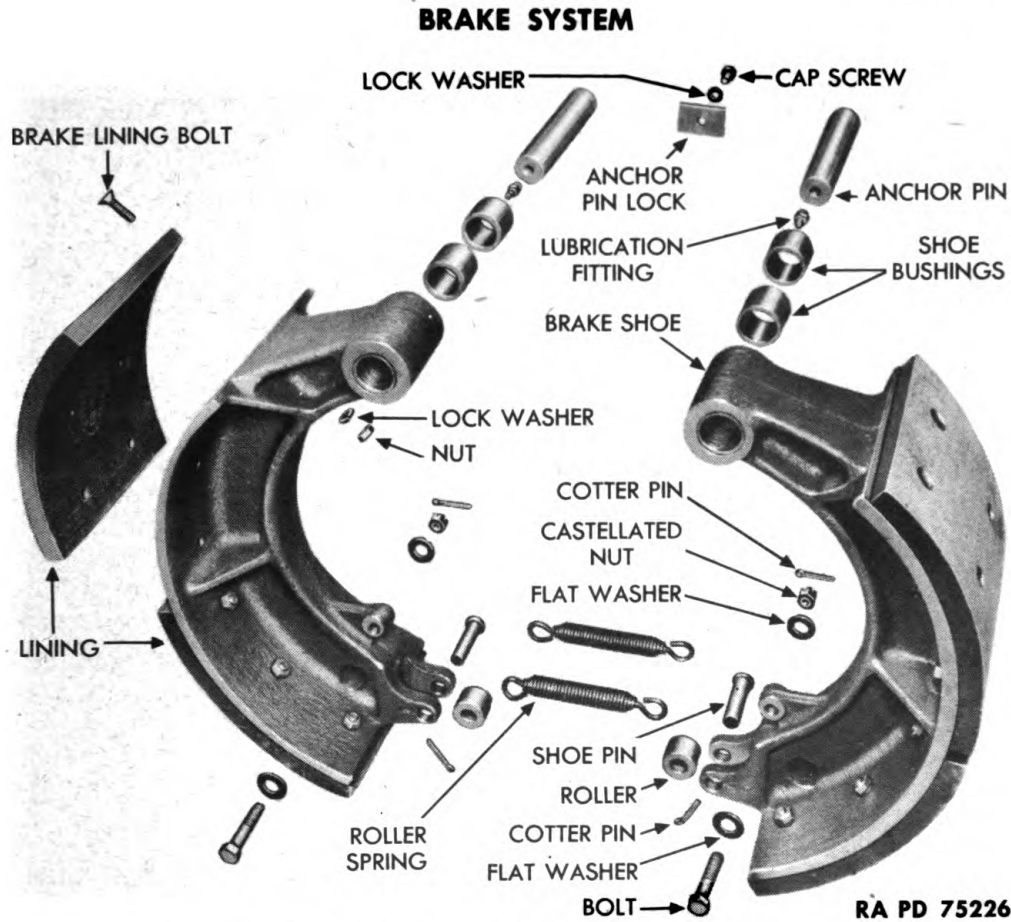

Figure 19 — Service Brake Shoe — Disassembled
35. DISASSEMBLY, CLEANING, INSPECTION, REPAIR, AND ASSEMBLY (fig. 19).